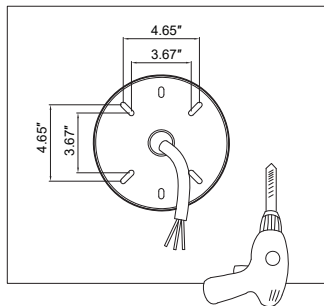

Figure 7
Step 4: Drill holes on the wall according to the locating plate(Figure 7);